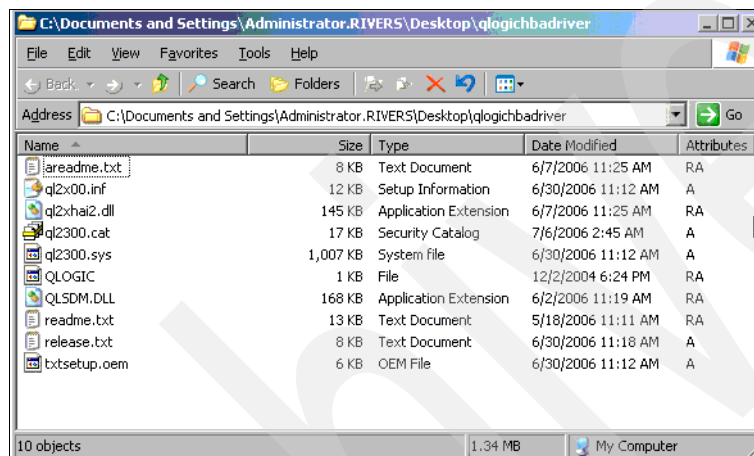

Figure 25-1 Extracted QLogic Drivers
1. Download the correct drivers for your system and extract the zip file to the hard drive (Figure 25-1).